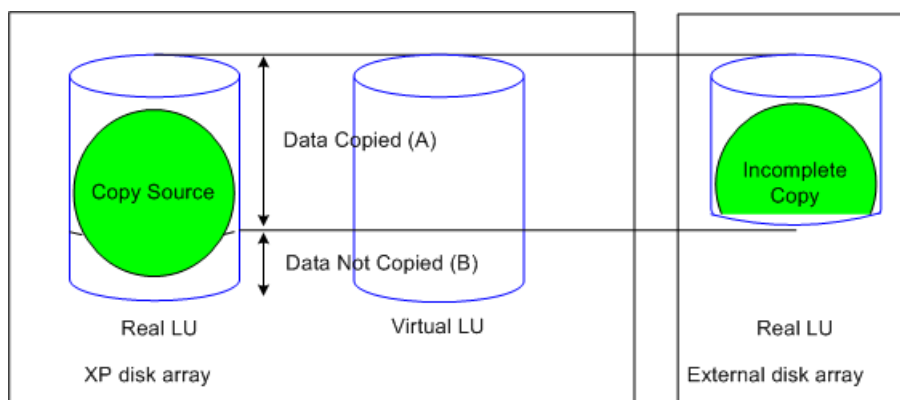

Figure 350: Example of an incomplete copy
Figure 350 shows an example where the copy source is not copied completely to the copy target LU. In this example, the data in the XP disk array is copied to the external disk array. In the external disk array, a real LU whose capacity is smaller than the copy source LU is selected. To copy all the source data ($A + B$) in the XP disk array, the target LU selected in the external disk array is too small, so some of the copy source data (B) is not copied. This means that the Flex Copy copy operation is unsuccessful.